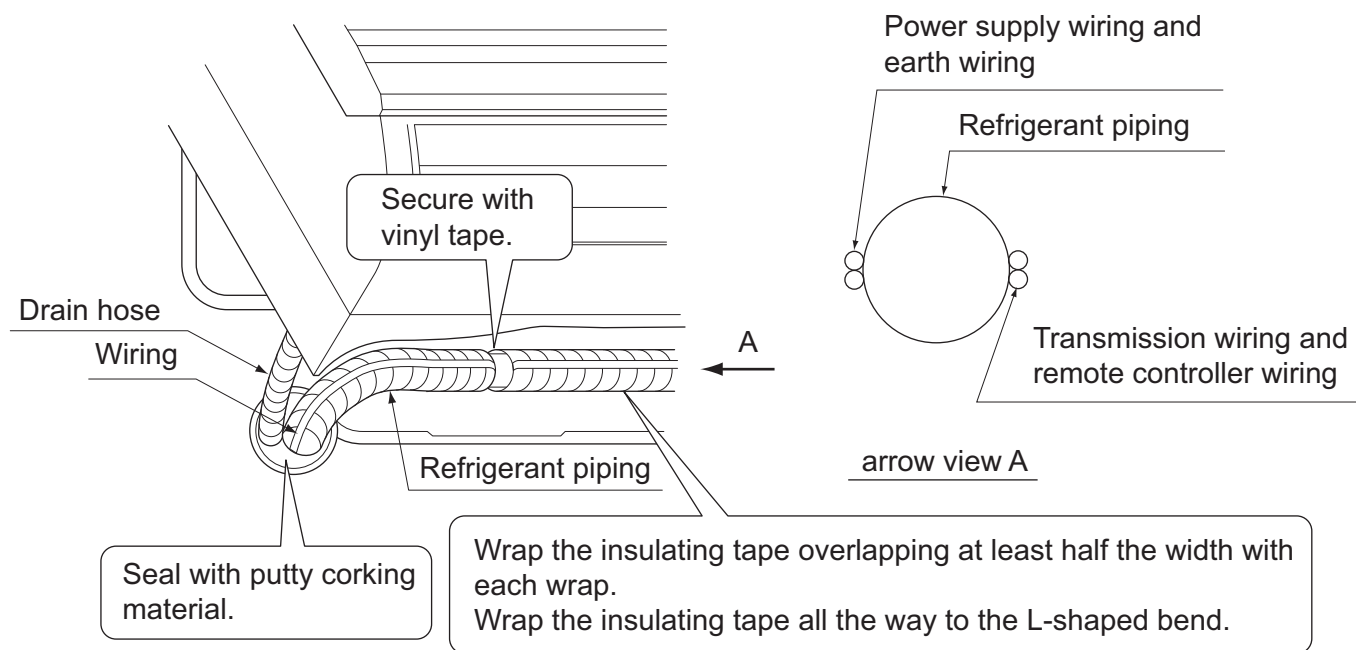

Fig. 10
**(7) Pass power supply wiring, transmission wiring, earth wiring, and remote controller wiring through the wiring guide in from the back of the indoor unit and to the front.**
**(8) Connect the piping. (See “5. REFRIGERANT PIPING WORK” and Fig. 10)**